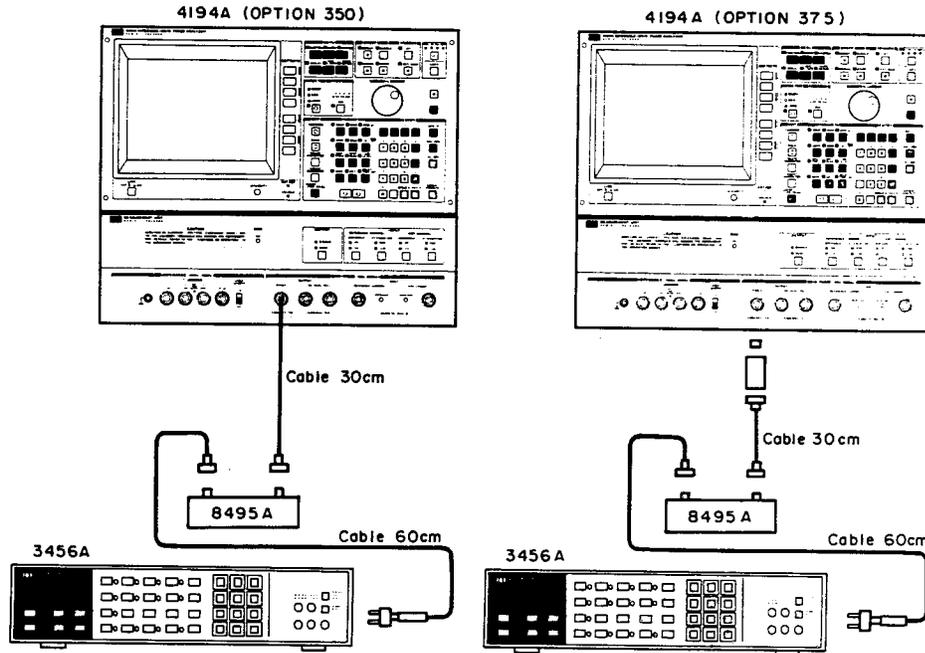

Figure 4-22. Gain-Phase Measurement Signal Level Test Setup 2
3. Connect the 3456A to the 8495A as shown in Figure 4-22.